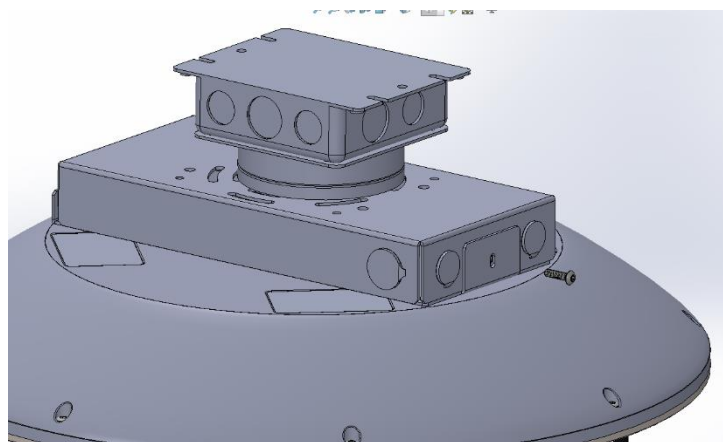

Figure 4.
6. Lift the luminaire upwards mating the 2 plates and tighten the 10-32 head torx screw to 25 in-lbs. torque (fig.4)